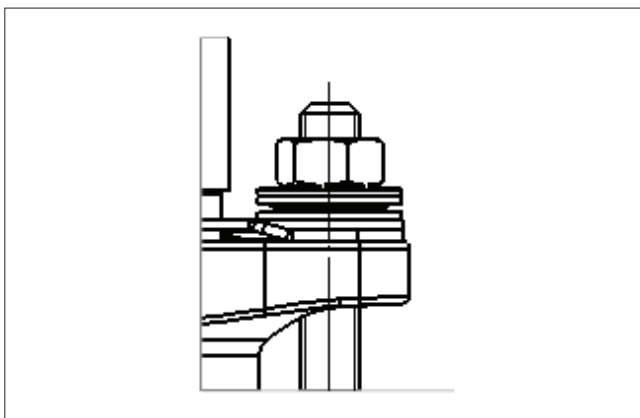

Fig. 13 Standard live-loading
- For the standard live-loading option (Figure 13), please refer to Table 5 for the tightening torques. Install the disc springs one at a time, in opposite orientations, make sure the first installed disc spring has its wider area pointing down.